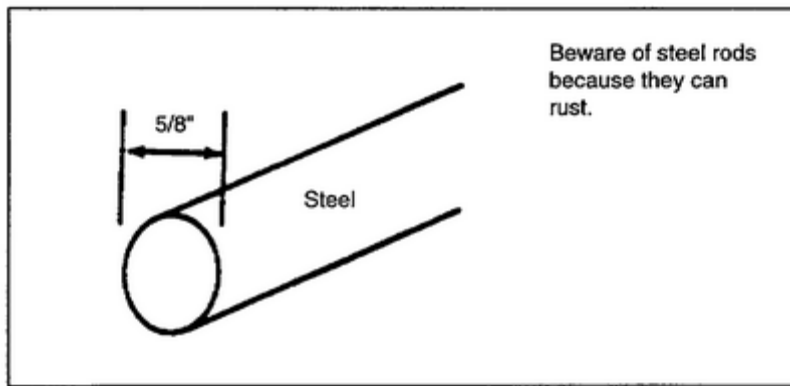

Figure 1-4. Solid-steel grounding rod
- c. A solid-steel (ferrous metal) grounding rod is at least 5/8 inch in diameter (Figure 1-4).